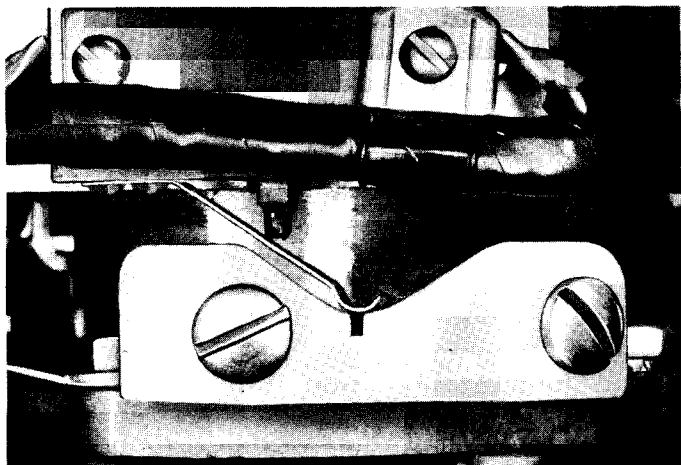

Figure 7. Forward Interlock Switch Adjustment
2. Cam has mark for lineup, as shown in Figure 7.